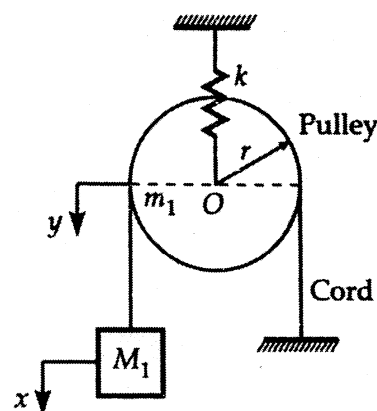

Figure1
- Explain controlling force diagram of governor? (05)
- Derive an expression for effect of gyroscopic couple on a naval ship during pitching. (05)
- Explain why mechanical vibration is an important area of study for engineers. Briefly describe five practical examples of good vibration. (05)
- Draw and explain a plot of magnification factor versus frequency ratio curves for various damping factor values. (05)
- Explain static and dynamic balancing. (05)
- Q.2 a) The inertia of the connecting rod can be replaced by two masses concentrated at two points and connected rigidly together. How to determine the two masses so that it is dynamically equivalent to the connecting rod? (10)
- b) Find the natural frequency of the pulley system shown in figure1 by neglecting friction and masses of pulleys (10)